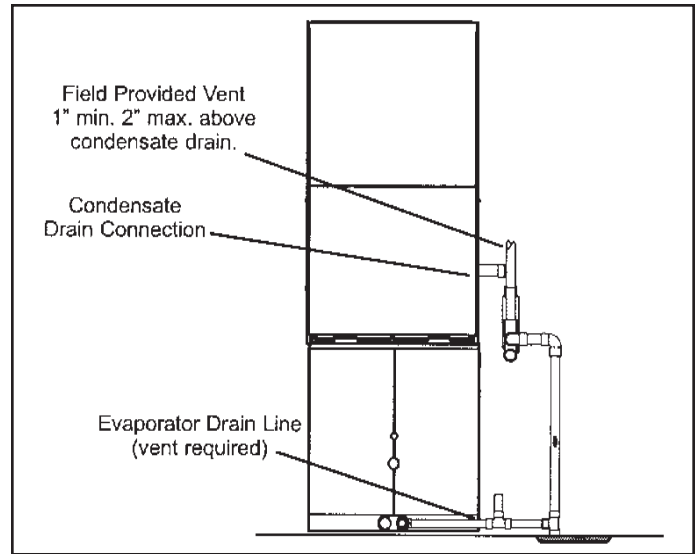

Figure 38. Evaporator Coil Using a Common Drain
4. Figure 38 shows the furnace and evaporator coil using a separate drain. If necessary, the condensate line from the furnace and evaporator coil can drain together. See Figure 39. The field provided vent must be a minimum 1" to a maximum 2" length above the condensate drain outlet connection.